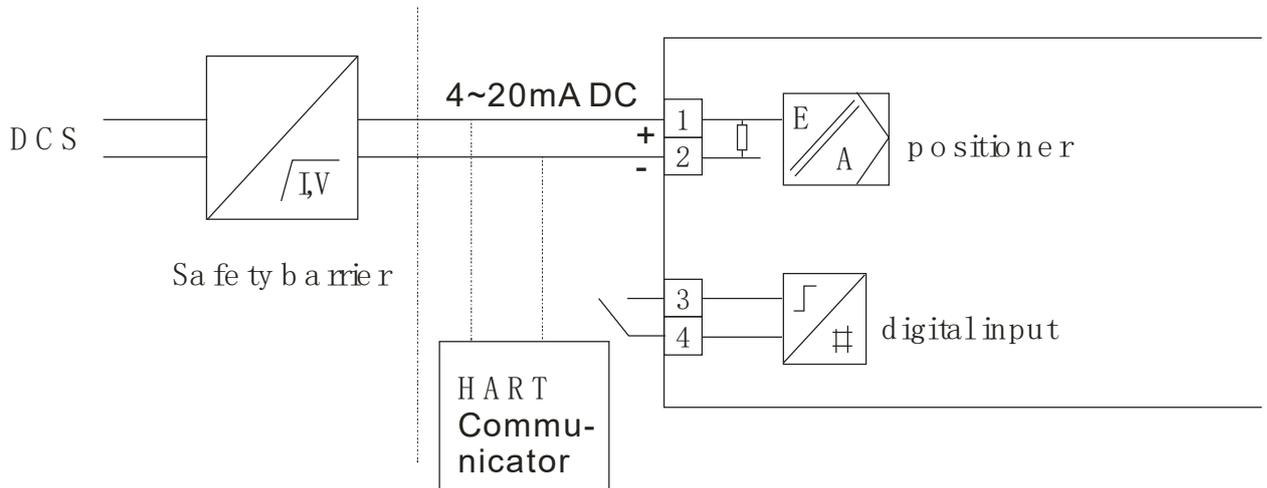

Fig 4-8 Input electrical connection
4.4.2.1 Input electrical connection (Fig. 4-8)